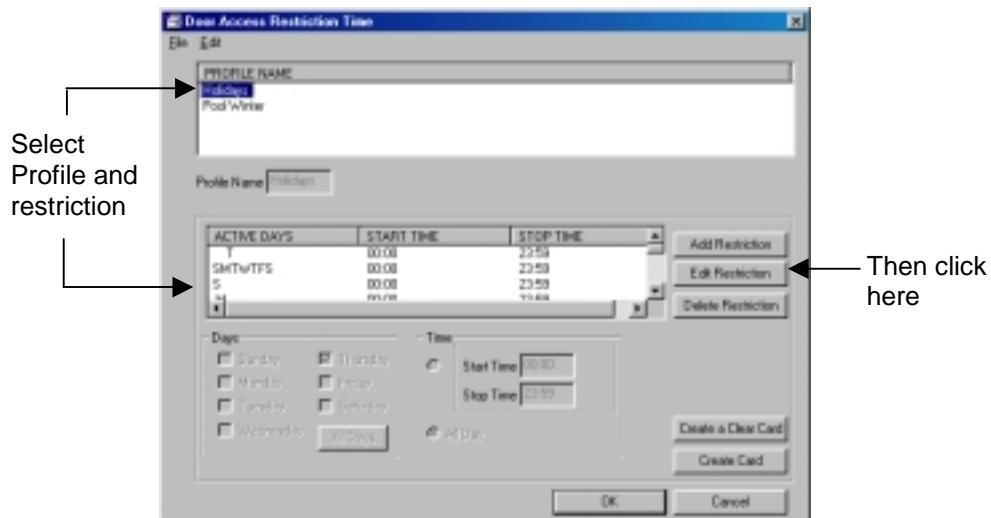

Figure 11.53 Editing a Restriction
1. In the Door Access Restriction Time window select a profile and the restriction to edit (Figure 11.53).
2. Click the Edit Restriction button (Figure 11.53).